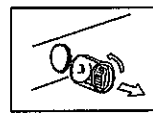

Fig.2
- 2) Screw out filter by turning counterclockwise (Fig. 2);